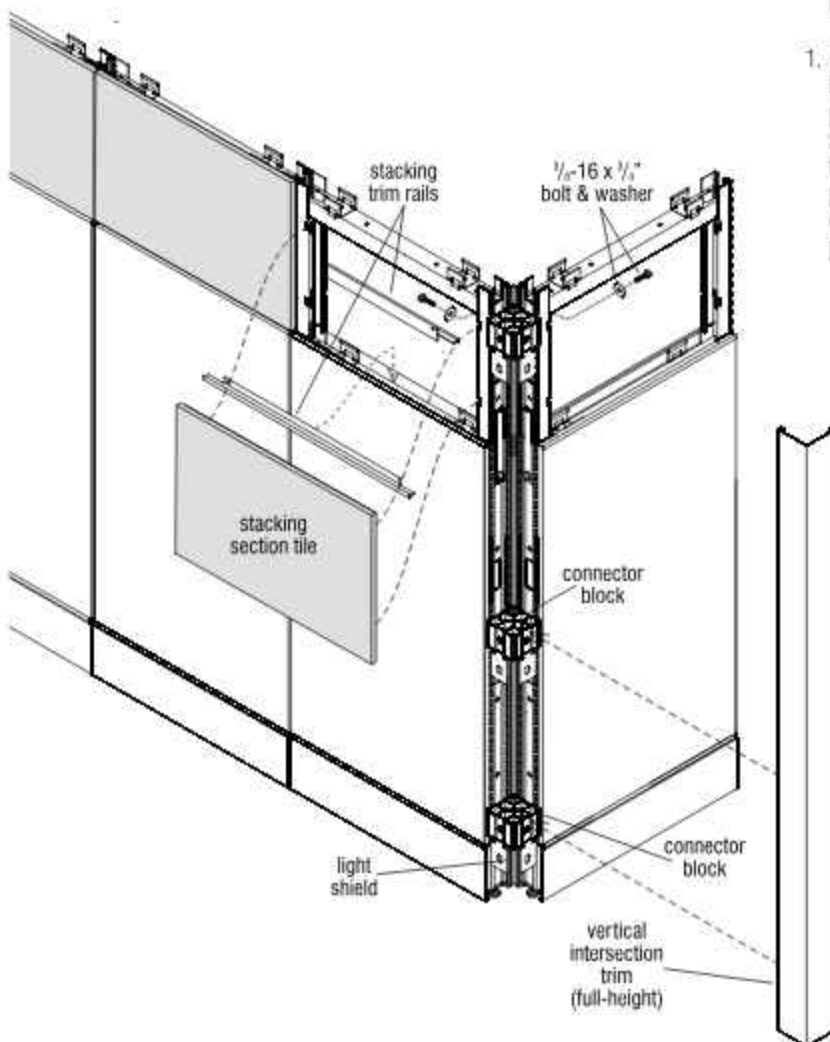

Figure 12 - Stacking Sections with Fabric, Markerboard or Slat Wall Tiles (steel frame) - Full-Height Intersection Assembly
2. If the stacking section tile is fabric or slat wall, hold the tile up, then center and nest the bottom of the tile into the bottom of the stacking trim rail. Push the top of the tile against the frame and lift such that the tabs of the stiffeners enter the P-slots. Push in and gently allow tile to nest down into the bottom trim channel (Figure 12).
3. If the stacking section tile is markerboard, hold the tile up, then center and nest the bottom of the tile into the bottom of the stacking trim rail. Push the top of the tile against the frame. Magnets will hold the tile against the frame (Figure 12).
5. Ensure each tile is installed securely and even onto the lower panels. Alignment along the top of adjacent stacking section tiles must be even for trim to fit properly (Figure 12).
1. Hang the full-height vertical intersection trim onto the three connector blocks at the intersection (Figure 12).